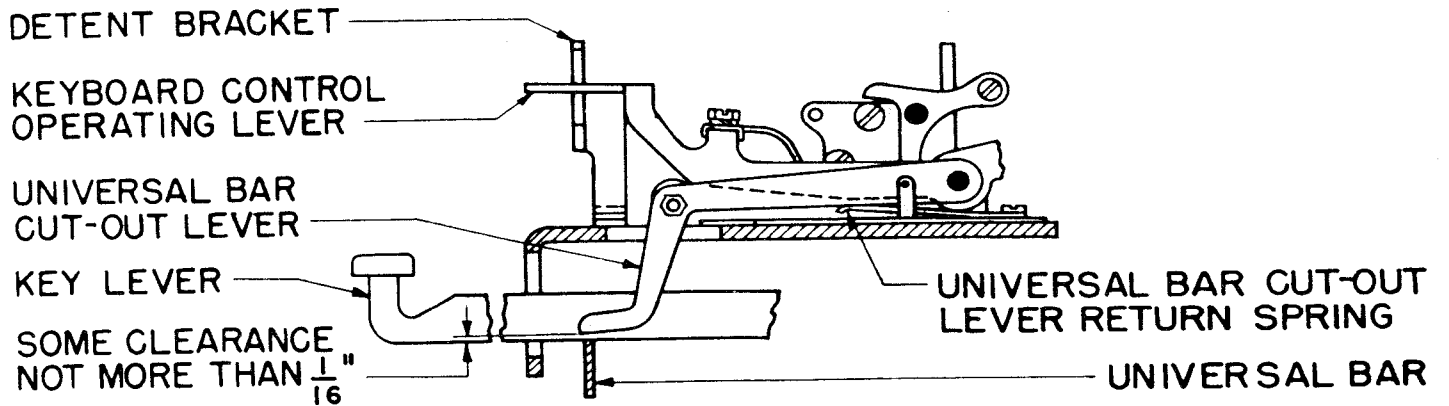

Figure 23
2.31 Universal Bar Cutout Lever should clear the universal bar by not more than 1/16 inch when the keyboard-control operating lever is in the middle KBD & TAPE position. See Figure 23.